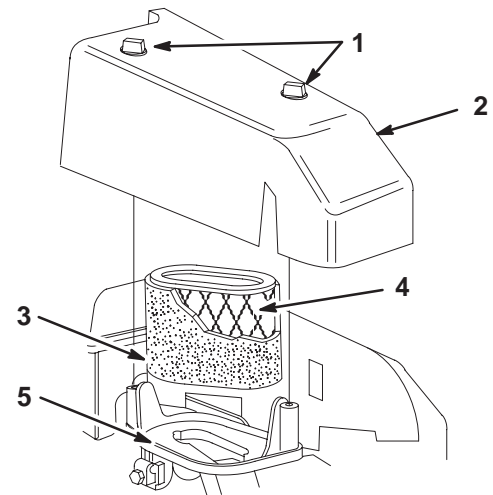

Fig. 32 – Installing Intake Elbow Assembly
- Install air cleaner primer base with two (2) screws into carburetor.
- Torque two (2) carburetor mounting screws to 30 in. lbs. (3.0Nm), Fig. 32.
- Install air cleaner cartridge and pre-cleaner, Fig. 32.
- Install air cleaner cover and two (2) screws, tighten screw farthest from spark plug first.